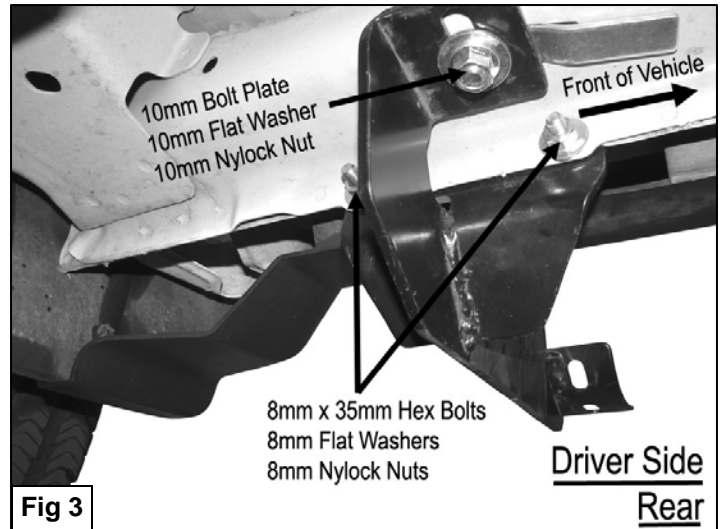

Fig 3
- Repeat steps 2-4 for driver side rear Mounting Bracket **(Figure 3)**.